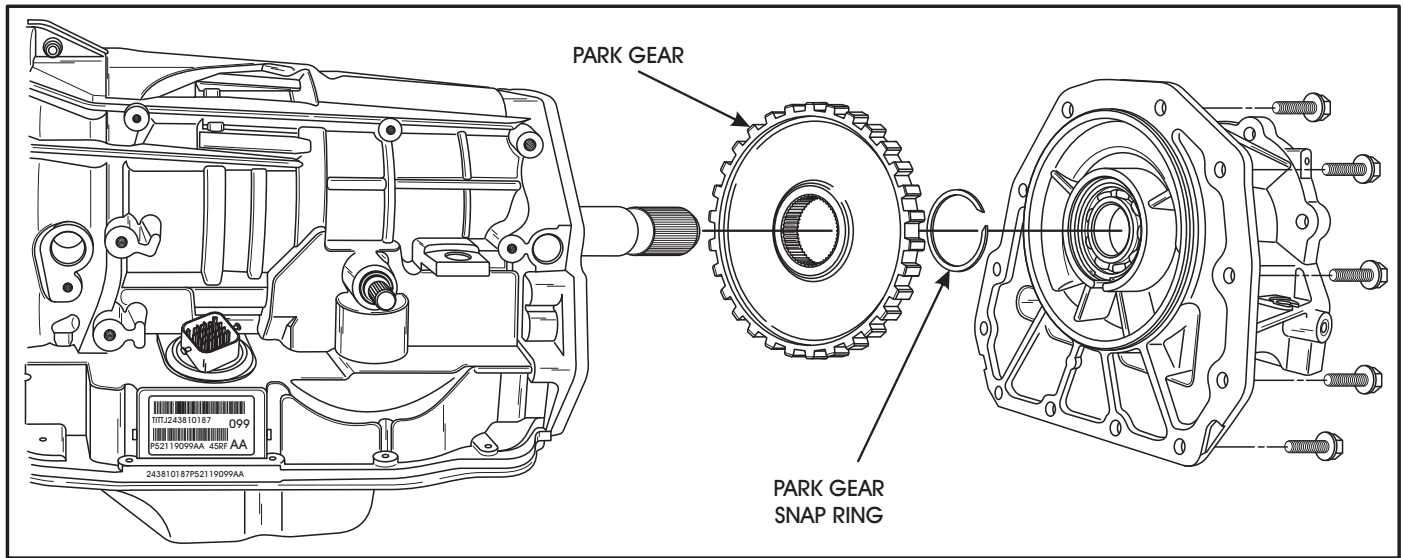

Figure 30
7. Remove the 12 extension housing to case retaining bolts using a 15mm socket and then remove extension housing (See Figure 30).
8. Remove the park gear snap ring from output shaft and remove park gear (See Figure 30).